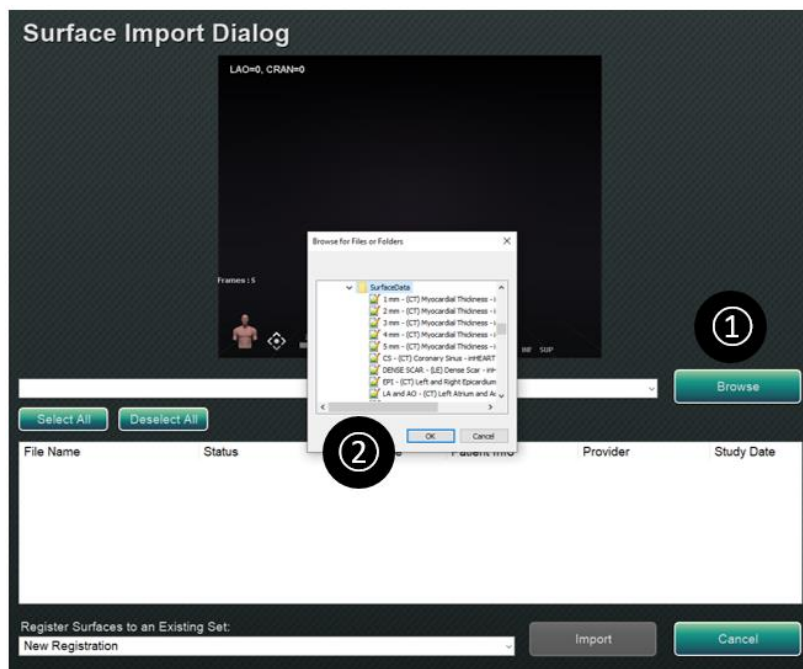

Figure 124. Selecting Object to Import
Press browse (1) to navigate to the directory containing the surface data, and after selecting the desired files or folders, press OK (2) (**Figure 124**).